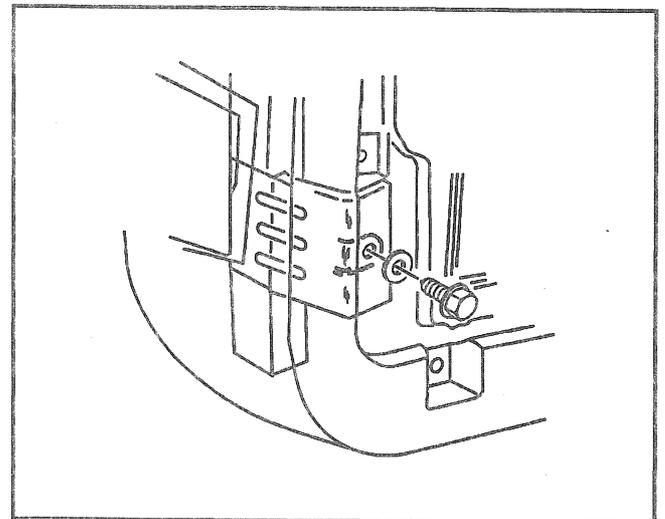

Figure 78—Rear Window Front Glass Run Channel Bolts
**Remove or Disconnect (Figure 78)**
**Install or Connect (Figure 78)**